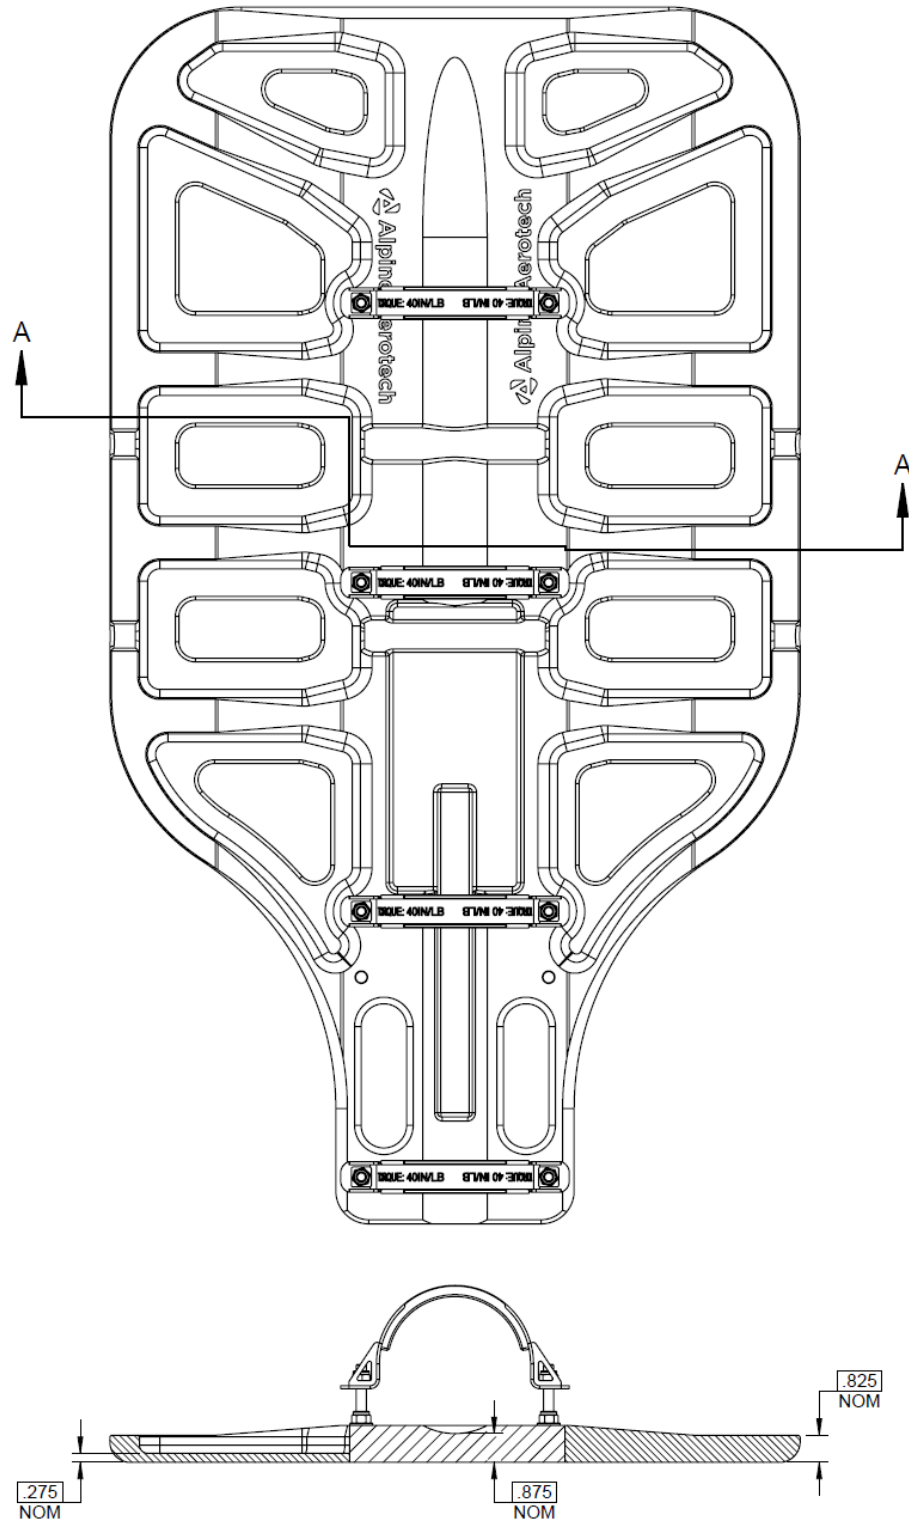

Figure 1
- v. In the shaded regions  ,  of Figure 1 the Bear Paw may be worn to a maximum depth of 0.125.
- vi. In the shaded  region of Fig 1, it is acceptable to have damaged areas up to a maximum depth of 0.125 over a maximum area of 2 sq. in. Damage includes but not limited to scratches, gouges and deformed areas.
- viii. Cracks are acceptable in the shaded  portion of Fig 1 as long as they are restricted to the pockets of the bear paws, and do not exceed 0.50 long. Cracks that penetrate the stiffening ribs of the same area are unacceptable. Stop drill all cracks up to 0.50 long with $\varnothing 0.188$ drill.
- ix. Inspect items 2 & 12 Cap, Assy for damage to their respective components:
- a. Inspect items 4 & 14, Strap, Assys for cracks and hole elongation. If cracks are detected, or holes are elongated more than 0.025, replace the Strap, Assys (Items 4 & 14) immediately.
- b. Inspect items 3 & 13 Cap, Details for wear and damage and replace as required.